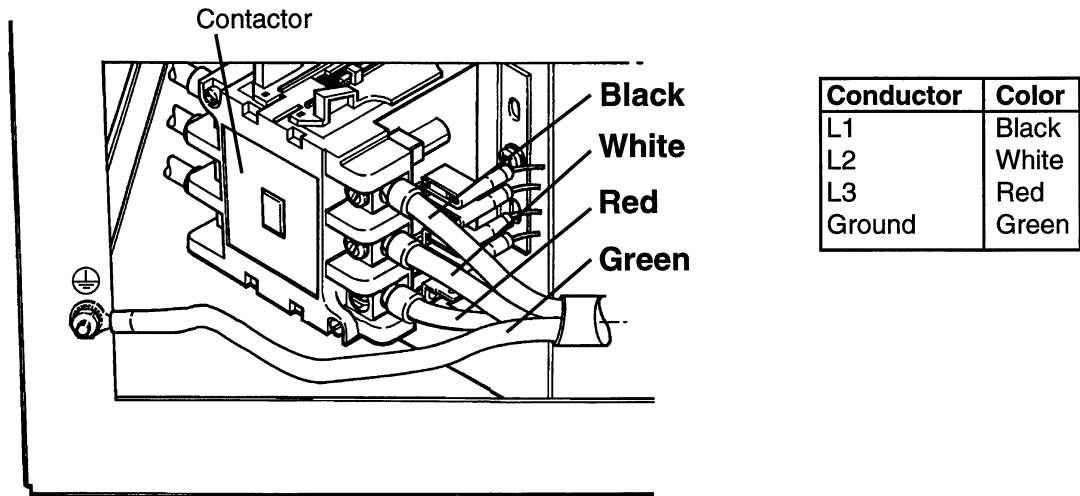

Figure 2-7 Connecting the Transformer Secondary Power Cord from 600V Transformer Case to Powermax1100
1. Connect L1 (Black), L2 (White) and L3 (Red) of the three-phase transformer secondary power cord to the contactor as shown in Figure 2-7.